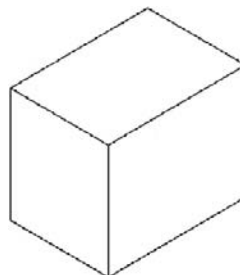

FIGURE 20.6
Step 9. You can press F5 again for the final surface or use the Copy command. Be sure to use the ENDpoint OSNAP to cleanly connect lines. Figure 20.6 shows what you get after a few lines.